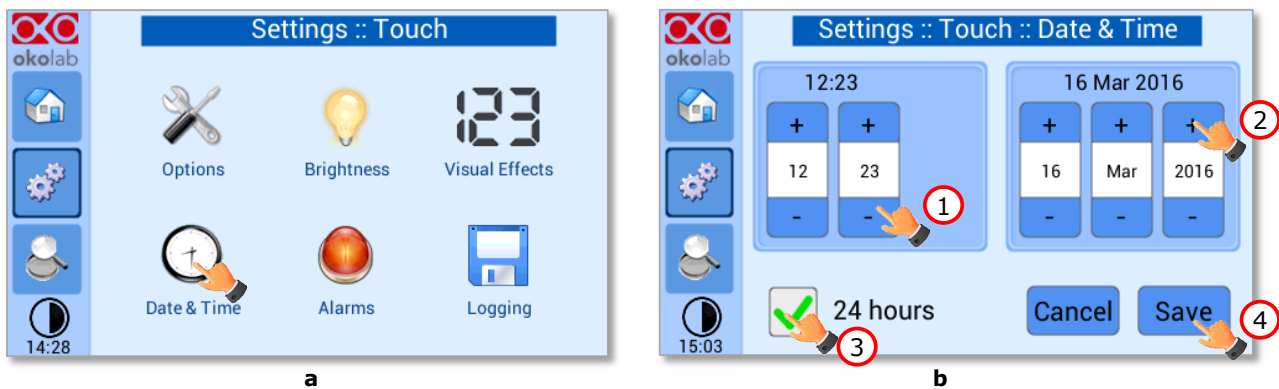

Figure 53. Touch screen settings. Date and Time (a - b).
1. Press the *Date & Time* icon  (see Figure 53 a).
2. Set the values by using the +/- icons (1 and 2 in Figure 53 b).
Tip ► Flag the 24 hours box, if you want to use the hour format based on 24 hours (3 in Figure 53 b).
3. Click on *Save* to confirm (4 in Figure 53 b) or *Cancel* to undo.